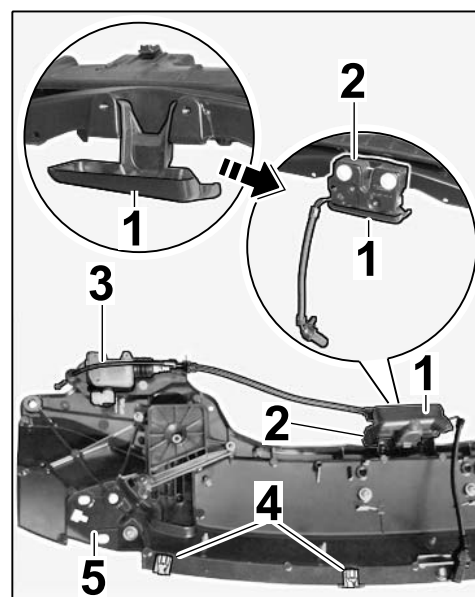

Figure 8
Convert rear lid-release motor with retaining bracket (⇒ *Workshop Manual '558419 Removing and installing rear lid-release motor'*, ⇒ *Figure 8*).
- 3.1.8 **ONLY** for Cabriolet: Convert convertible-top compartment lid centering device (similar to: ⇒ *Figure 8 -2-*).